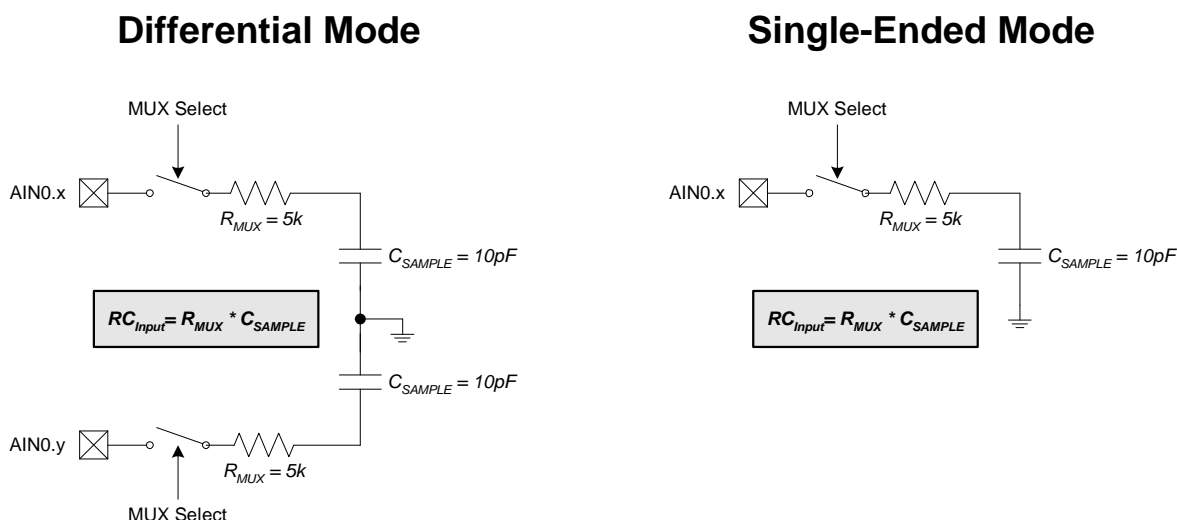

Figure 6.5. ADC0 Equivalent Input Circuits
A minimum tracking time is required before an accurate conversion can be performed. This tracking time is determined by the ADC0 MUX resistance, the ADC0 sampling capacitance, any external source resistance, and the accuracy required for the conversion. Figure 6.5 shows the equivalent ADC0 input circuits for both Differential and Single-ended modes. Notice that the equivalent time constant for both input circuits is the same. The required settling time for a given settling accuracy (SA) may be approximated by Equation 6.2. When measuring the Temperature Sensor output, R_{TOTAL} reduces to R_{MUX} . Note that in low-power tracking mode, three SAR clocks are used for tracking at the start of every conversion. For most applications, these three SAR clocks will meet the tracking requirements. See Table 6.2 for absolute minimum settling/tracking time requirements.